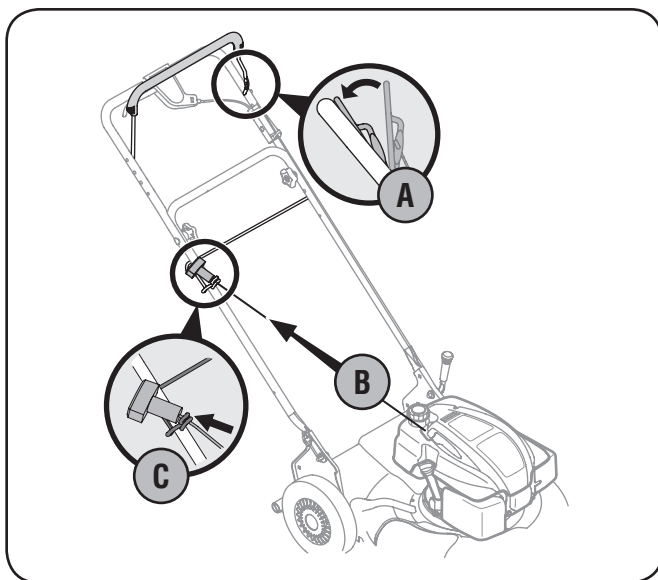

Figure 3-3
3. The rope guide, which is connected to the support rod, is located on the right side of the lower handle. See Fig. 3-3.